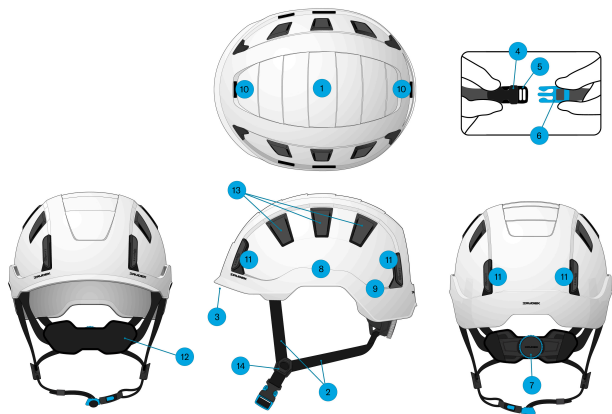

Fig. 1
- Before fitting, turn the adjustment system counterclockwise until it reaches its maximum size. Place the helmet on the head and adjust to the size of the user's head by turning the adjustment system clockwise to tighten and counterclockwise to loosen. (Fig. 1)